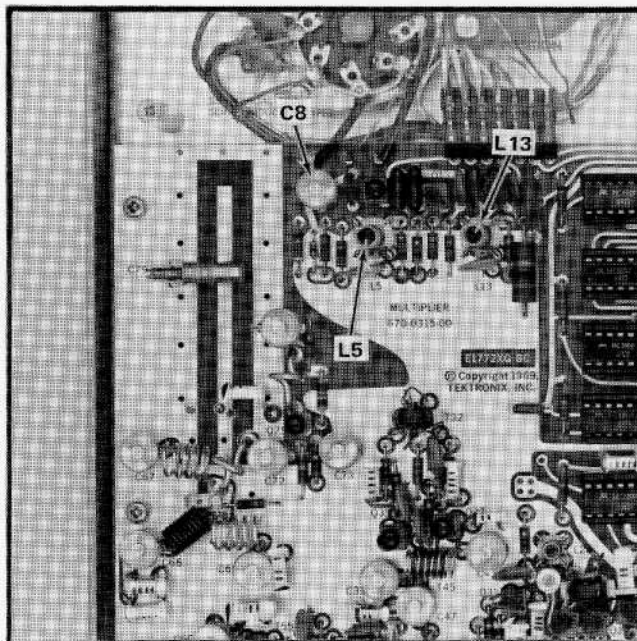

Fig. 5-4. Crystal oscillator frequency and amplitude adjustments.
- 1) Adjust C8 (Fig. 5-4) for 10 MHz .
g. ADJUST—L13 (Fig. 5-4) for maximum marker amplitude. If the core of L13 is moved more than one full turn, readjust L5 to the midpoint of the oscillator operating range. Recheck accuracy of the 10 MHz oscillator.
f. ADJUST—L13 (Fig. 5-4) for maximum marker amplitude. If the core of L13 is moved more than one full turn, readjust L5 to the midpoint of the oscillator operating range. Recheck accuracy of the 10 MHz oscillator.